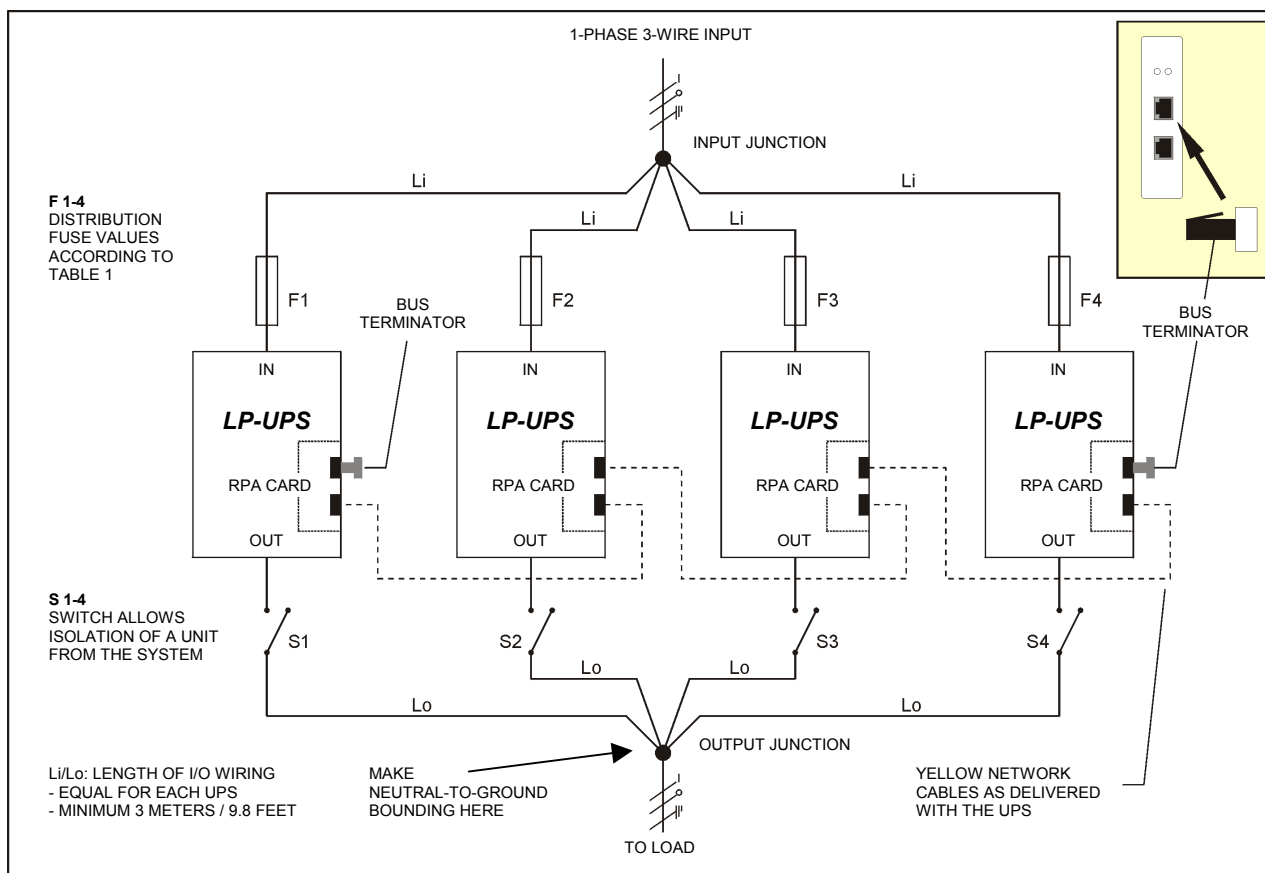

Figure 17. Installation of parallel operating LP-U UPSs
2. All outputs must be connected together, supplying the load. It is advised to install switches (S 1-4, fig. 17) in the output wiring, in order to be able to isolate a unit from the remaining system for service and maintenance purposes. It is advised to make a Neutral-to-Ground bounding in the output junction.
4. The length of all input cables from the input junction (Li, fig. 17) to the UPS inputs should be equal. The same applies to the cables from the outputs to the output junction (Lo, fig. 17). The minimum length of the input as well as the output cables is 3 meters / 10 feet.
7. Interconnect the RPA-cards of the units, using the network cable that came with the UPS. See figure 17 (dotted line). Only install the cables that were delivered with the UPSs! Of the first and the last UPS in the system only one RPA-socket is used to interconnect the UPSs. A bus terminator must be placed in the other (free) RPA-socket. The required bus terminators have been delivered with the unit.
2. Remove the installation fuse from the input of that UPS (F1-4 in figure 17),
3. Separate the output of the UPS from the output junction (S1-4 in figure 17).